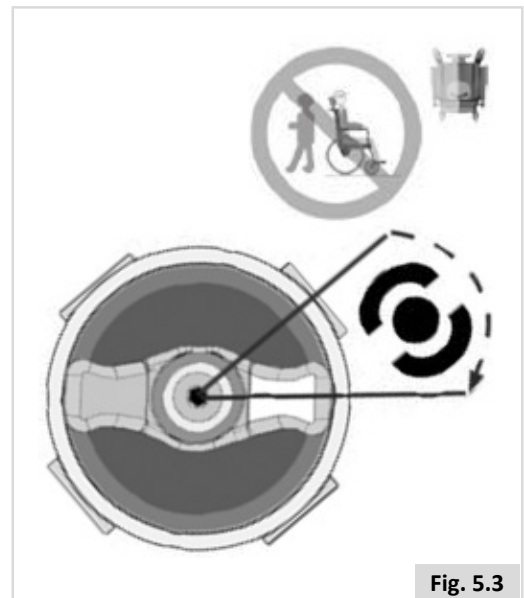
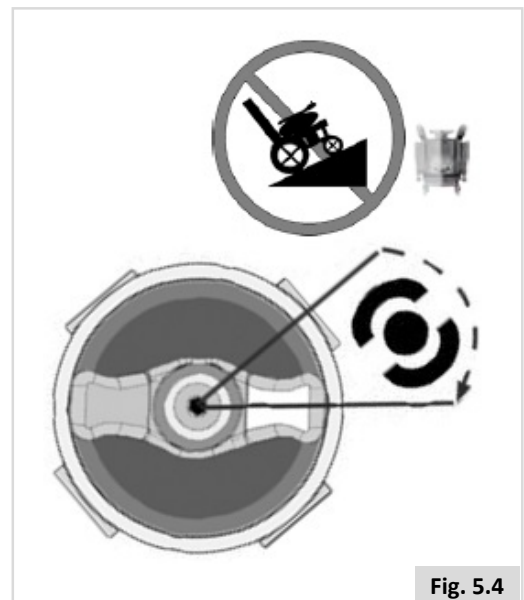

Fig. 5.3
Fig. 5.4
2. For disengaging the motors. (Fig. 5.3 and Fig.5.4)